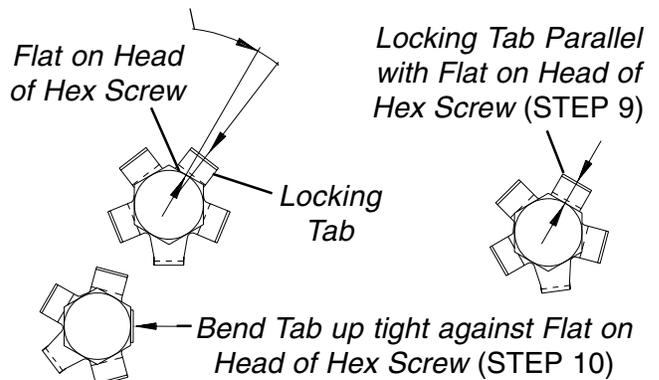

FIGURE 6 - INSTALLING/REPLACING REAR WHEELS
8. Examine head of hex screw and locking tab washer. Make sure one (1) of the tabs on locking tab washer is parallel with one (1) of the flats on head of hex screw.
9. If one (1) of the tabs on the locking tab washer is NOT parallel with one (1) of the flats on the head of the hex screw (FIGURE 6), **TIGHTEN** the hex screw until the closest flat and locking tab are parallel.
INSTALLING/REPLACING REAR WHEELS (FIGURE 6)
10. Bend the parallel tab of locking tab washer up tight against flat of the hex screw (FIGURE 6).